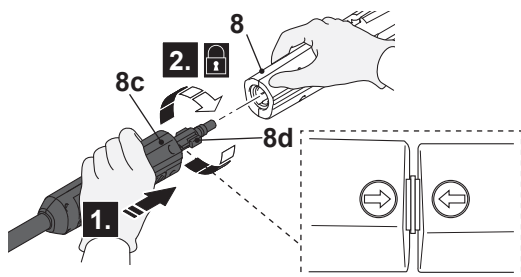

Fig. 5
- > Align the tongues (8d) of the extension lance (8c) with the grooves of the connection port of the spray gun (8) and insert it. (Fig. 5, step 1).
- > Securely fit the extension lance (8c) by turning it clockwise to lock it in place (Fig. 5, step 2). Ensure the arrow on the spray gun aligns with the arrow on the extension lance.